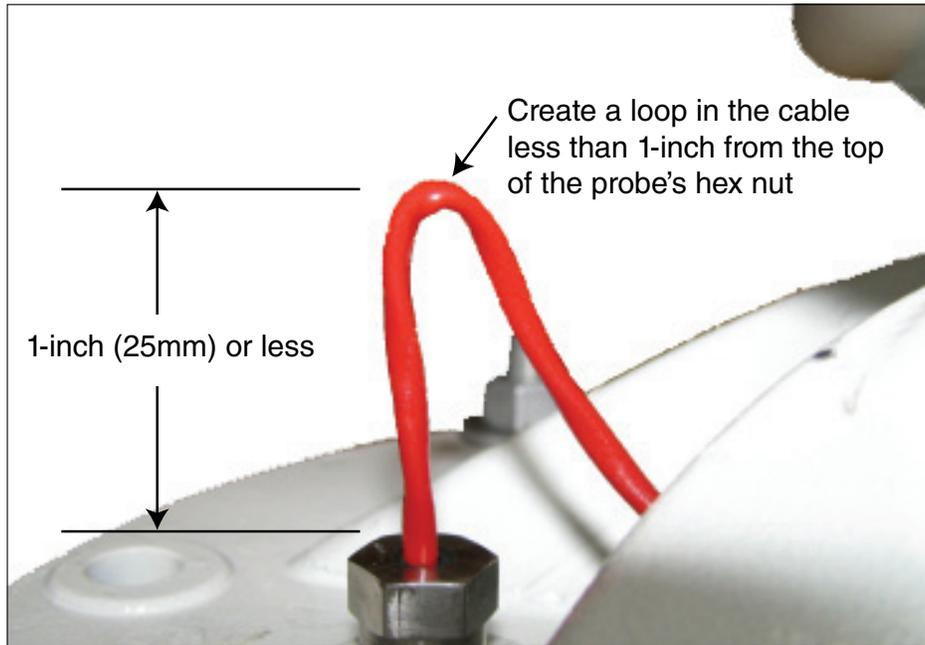

Figure 21. Preparing the Thermal Probe Cable for the Protective Boot
5. Make a small bend in the thermal probe cable no more than one inch above the probe hex nut (see Figure 21).